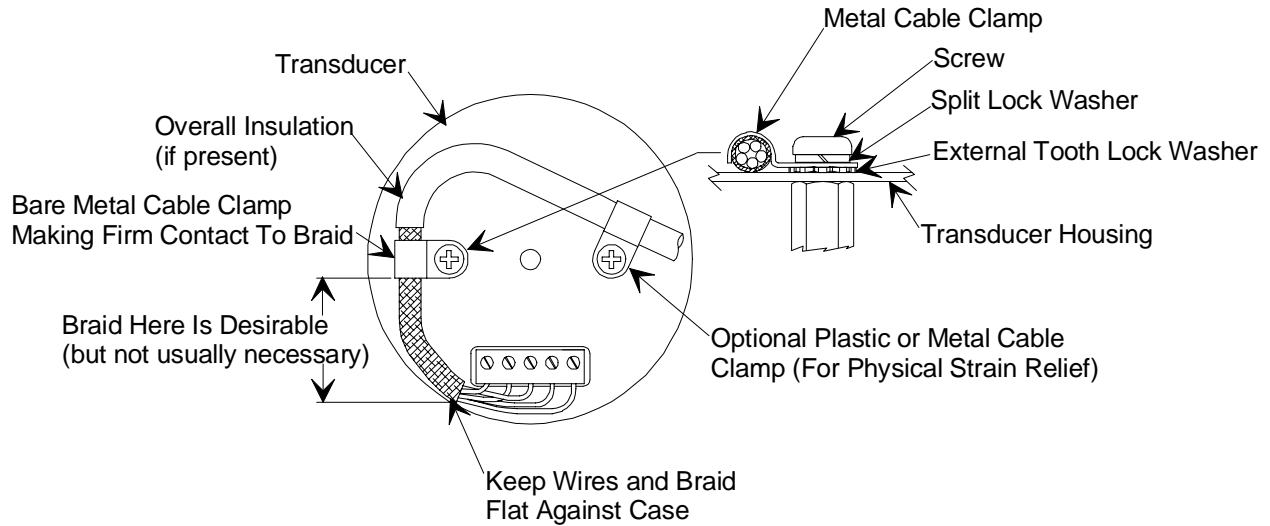

Figure 1: Preferred Method
4. For shielded cables with flying leads at one or both ends; it is important at each such end, to ground the shield *before* the wires exit. Make this ground with absolute minimum length. Refer to Figures 1 and 2, page 26. (A ¼ inch piece of #22 wire may be undesirably long since it has approximately 5 nH of inductance, equivalent to 31 ohms at 1000 MHz). After picking up the braid's ground, keep wires and braid flat against the case. With very few exceptions, grounded metal covers are not required over terminal strips. If one is required, it will be stated in the instruction manual.